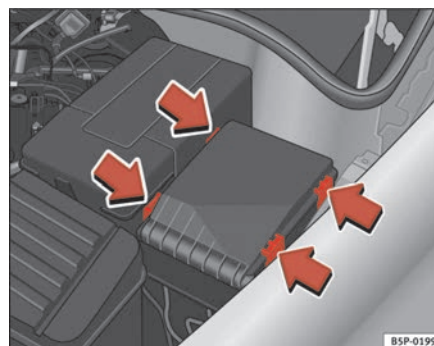

Fig. 157 Fuse box cover in engine compartment
- Prise off the fuse cover in the engine compartment by pressing the tabs towards the centre of the cover ⇒ page 239, fig. 157.